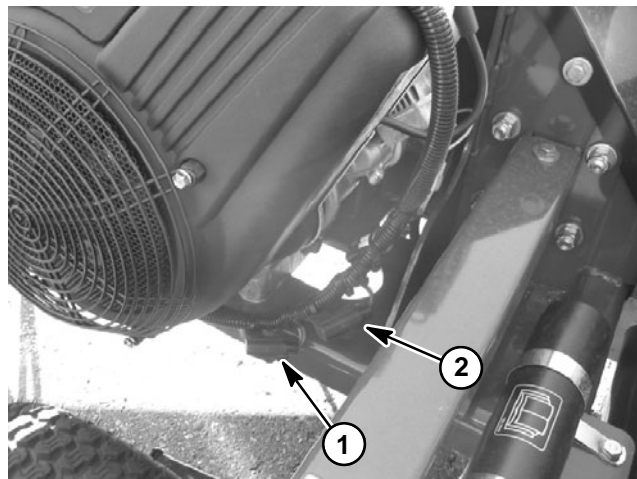

Figure 12
The ProCore Processor uses two (2) fuses for circuit protection. The fuse holders for these fuses are located next to the engine (Fig. 12).